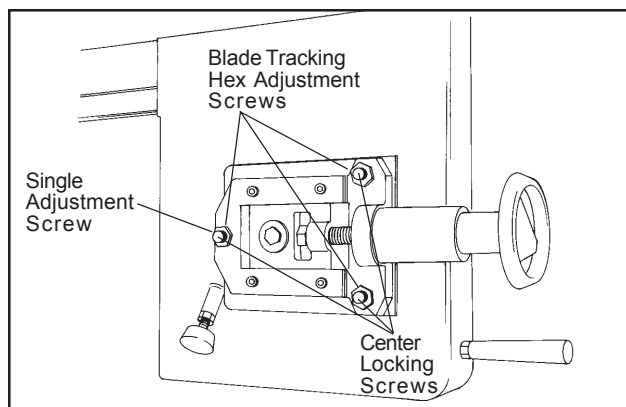

Figure 12: Blade tracking and tensioning
Blade tracking has been tested at the factory. Adjustment is rarely required when the blade is used properly or if the blade is correctly welded. (See figure 12 for location of blade tracking adjustment screws.)
5. Loosen the center locking screws in all three hex adjustment screws on the blade tensioning mechanism (see figure 12).